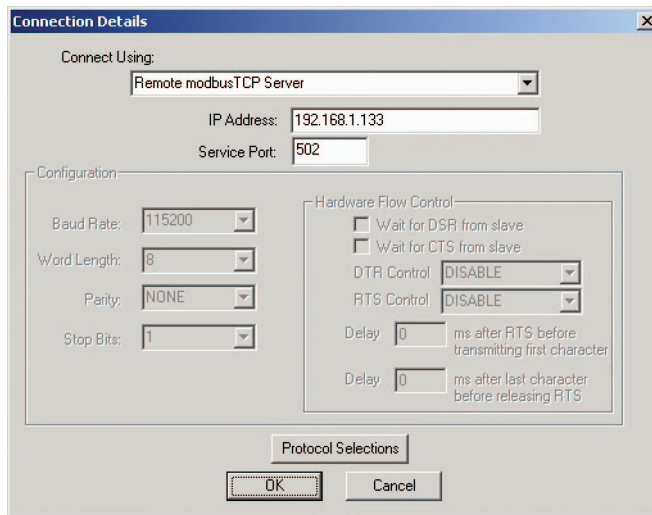

Figure 3-4 “Connection Details” dialog box with remote Modbus parameters
2. From the “Connect Using:” drop-down menu, select “Remote Modbus TCP Server” (see Figure 3-4).